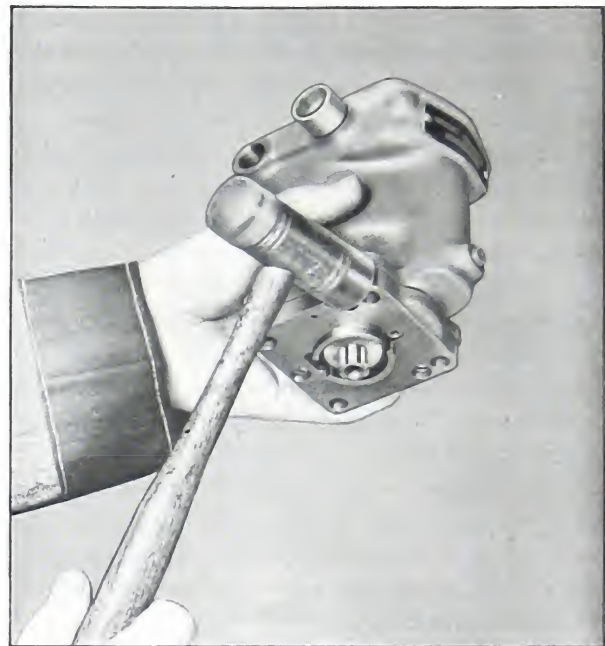

Fig. 5-130. Free drive shaft "b"
10. Turn drive shaft with finger. If it binds, loosen screws and free by striking at corners of base, as shown in Fig. 5-130.